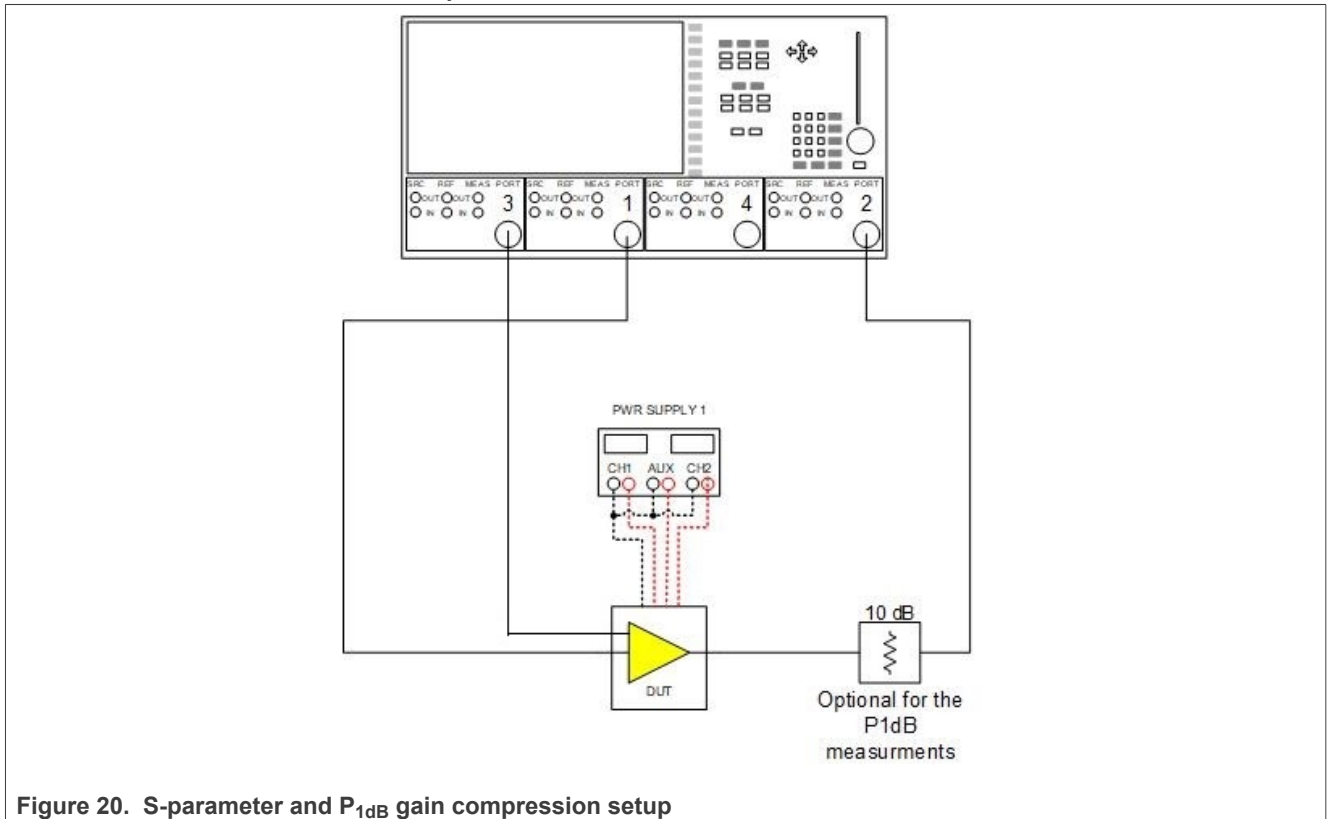

Figure 20. S-parameter and P_{1dB} gain compression setup
The measured S-parameters and Rollett stability factor K, are given in the graphs below. For the measurements, a typical BTS6306U EVB is used. All the S-parameter measurements have been carried out using the setup Figure 20.
The P_o and Gain are measured versus P_i using the setup shown in Figure 20.
The OP1dB is measured using the setup shown in Figure 20.
1. Connect the EVB to a calibrated network analyzer see Figure 20, we advise the following settings for S-parameter measurements: